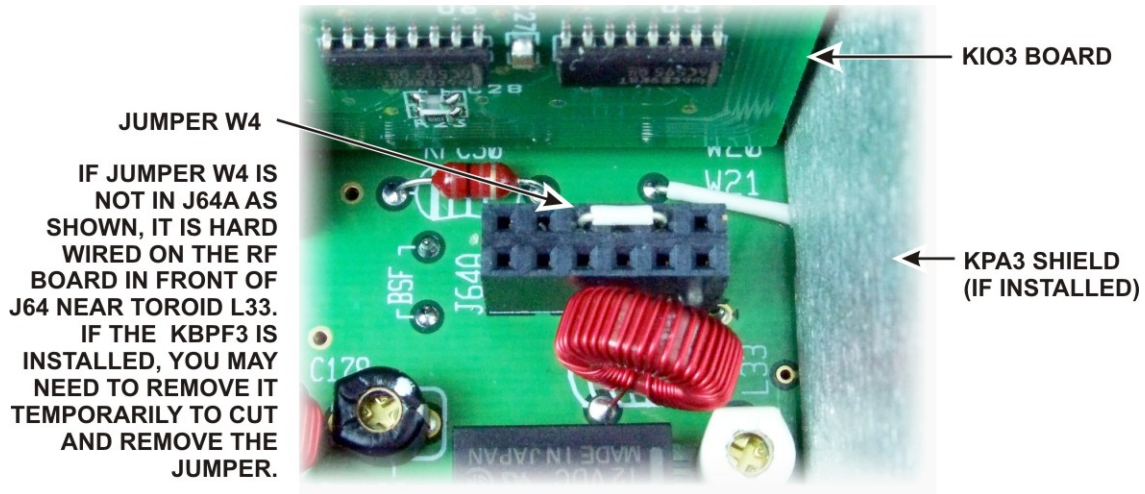

Figure 45. Jumper W4 on the K3 RF Board.
□ Remove jumper W4 from connector J64A on the K3 RF board. J64A is near the KIO3 board as shown in Figure 45. On some older RF boards, W4 is a jumper soldered between two pads on the board itself. If your board has a hard-wired jumper, cut it with diagonal cutters and completely remove the ends so they cannot short to the ground plane or nearby pads. If you ever want to operate your K3 with the KRX3 subreceiver removed, make up a jumper and insert it in J64A as shown in the figure.
- Replace jumper W4 in the connector shown in Figure 45. Be sure to put the jumper on the pins shown.